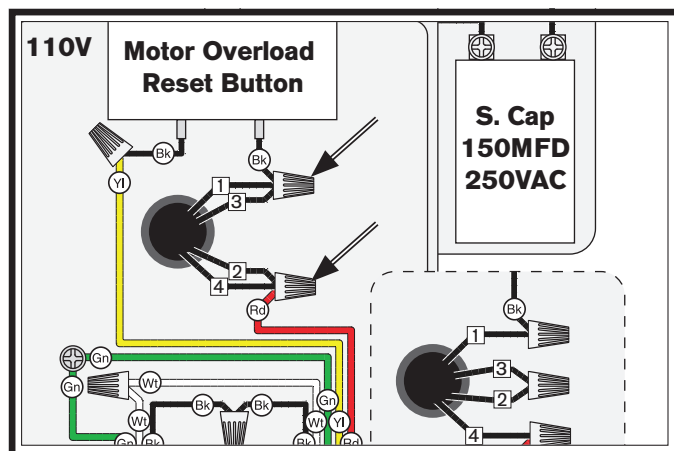

Figure 46. Wiring terminal locations.
2. Open the motor junction box, then loosen the wire nuts indicated in **Figure 46**. Remove wires #2 & #3 from the wire nuts.